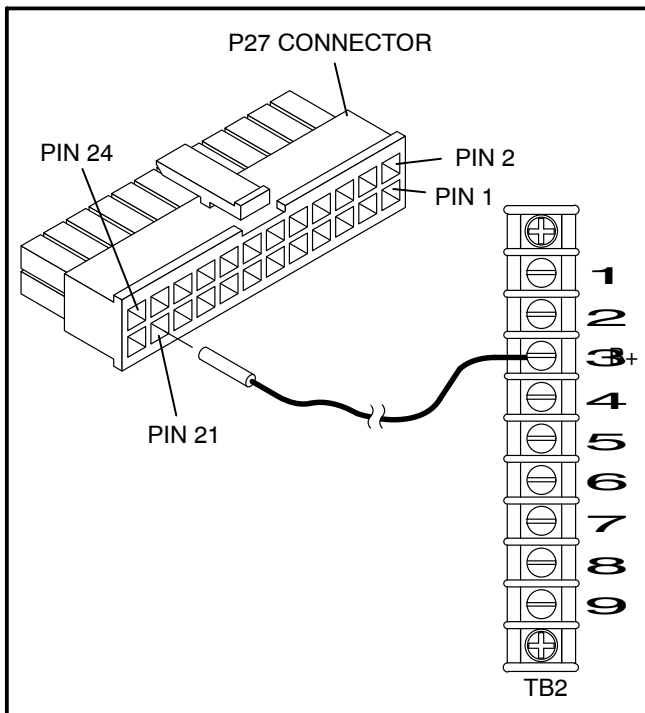

FIGURE 11-5. BATTERY LEAD INSTALLATION
11. Install the battery lead (see Figure 11-5):